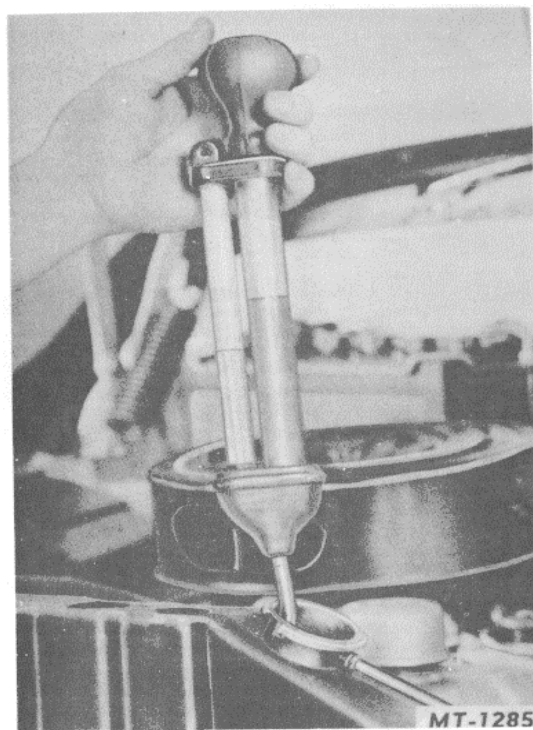

Fig. 7 Using Hydrometer to Test Antifreeze Solution.
2. Hydrometers (Fig. 7) which are used to test the freezing protection of an antifreeze solution, work on the principle of specific gravity or weight of the antifreeze solution. They are simple to use provided they are used in the proper manner. When using the hydrometer, the solution must be warm (at least 110), the temperature and level must be noted correctly, and the float must be able to move freely. Read only the hydrometer scale corresponding to the type antifreeze solution in the radiator. Keep hydrometer clean inside and out and treat it with the same care as given any other precision instrument.